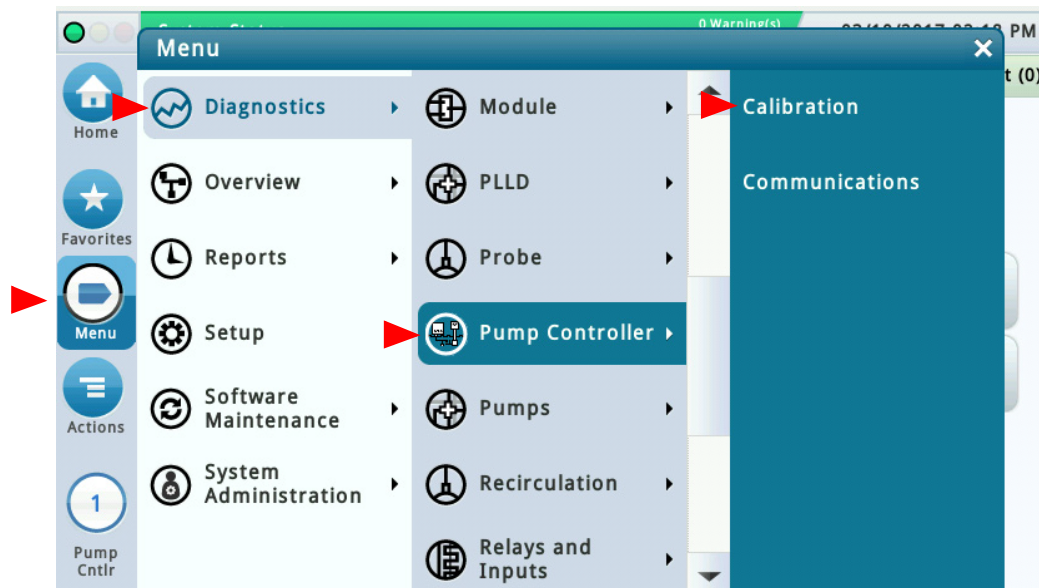
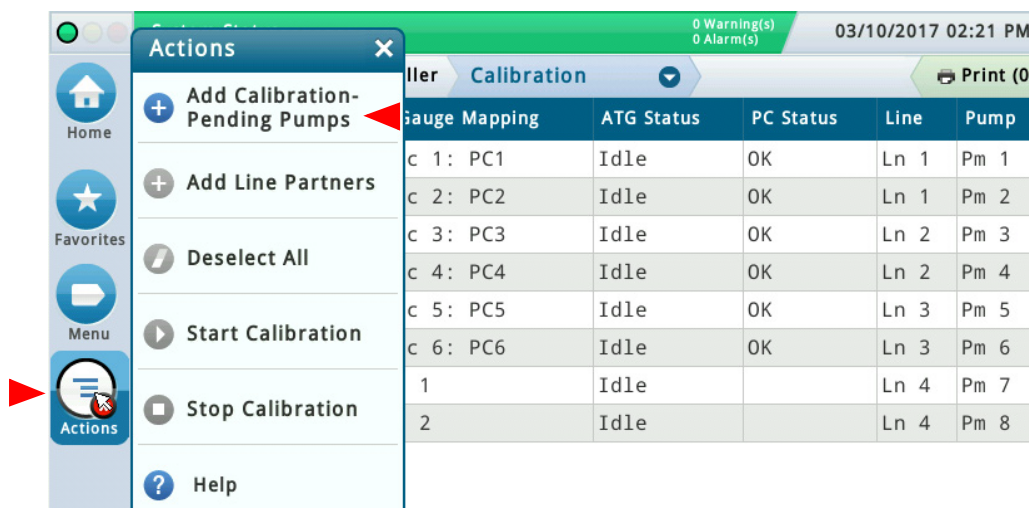

Figure 23. Accessing Pump Controller Communications Diagnostics Screen
Figure 24. Pump Controller Diagnostics Screen
3. Navigate to the **Diagnostics > Pump Controller > Calibration** screen on the TLS-450PLUS (see Figure 23 and Figure 24).